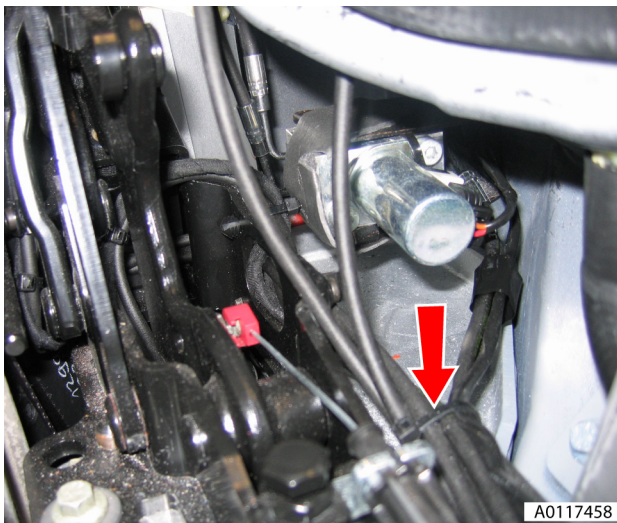

Fig. 15
30. Cut cable tie securing valve to bracket (see Fig. 15).